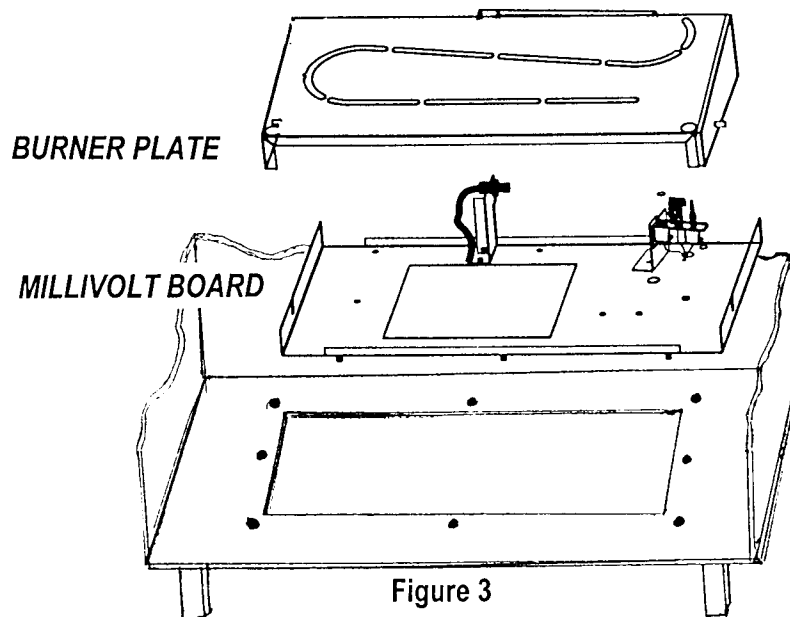

Figure 3
D) **MILLIVOLT BOARD INSTALLATION. See Figure 3.**
1. Loosen the (2) nuts securing the burner plate assembly on the millivolt board and remove from the board.